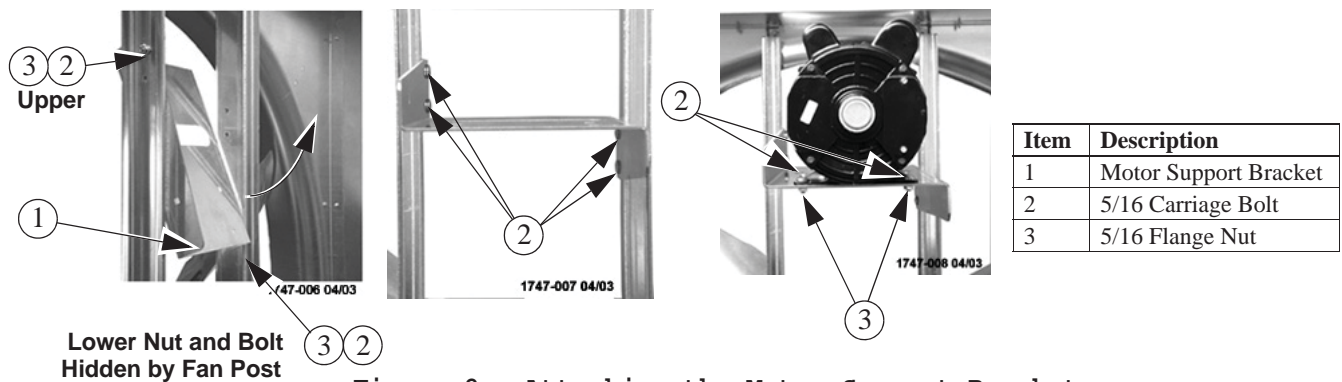

Figure 9. Attaching the Motor Support Bracket
Rotate the Motor Support Bracket into the upright position by removing the **Upper** Carriage Bolt and Nut and loosening the **Lower** Bolt and Nut (**See Figure 9**). Rotate the Motor Support Bracket until it is perpendicular to the Fan Posts and fasten with (4) 5/16 Carriage Bolts and (4) 5/16 Flange Nuts. *Note that the Nuts go outside the Posts.* Remove the Motor from the Crate and attach it to the Motor Support Bracket with (4) 5/16 Carriage Bolts and (4) 5/16 Flange Nuts **as shown**.